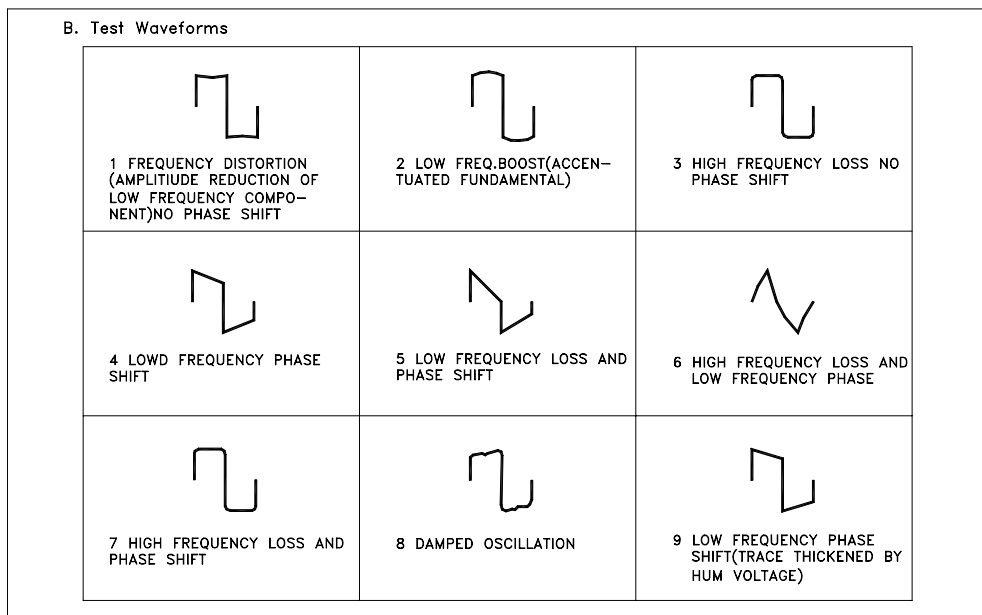

FIG 7. AMPLIFIER PERFORMANCE EVALUATION USING SQUARE WAVES.
A. Use the test set-up of FIG 7. The 50 Ω termination at the amplifier input is essential when using square waves to eliminate the ringing effects generated by the fast rise times.
C. At each frequency checkpoint, the waveform obtained at the amplifier output provides information regarding amplifier performance with respect to the frequency of square wave input. FIG 7. indicates the possible waveforms obtained